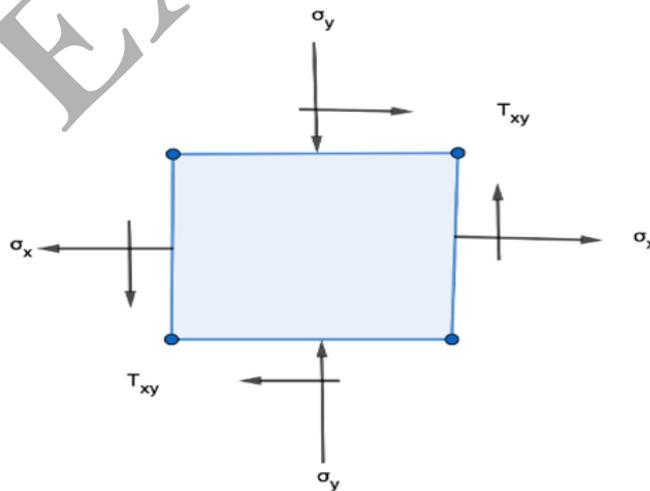

Figure Q5
A pressure vessel is made of a ductile material is subjected to a two dimensional stress system as shown on its element shown in Figure Q5 below.
- a) Sketch a Mohr's Stress Circle from the information provided in Figure Q5, labelling σ_1 , σ_2 the principal stresses and the maximum shear stress τ_{max} . Select a suitable scale for the Mohr's Stress circle. (10 marks)